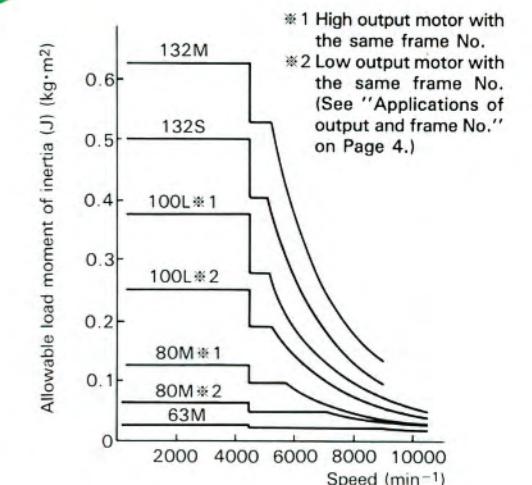

Fig.3 Allowable Load Moment of inertia of PM MOTOR 100 series
The PM MOTOR 100 series has synchronous self-pull-in function at the start of operation. So the load moment of inertia is limited by the starting frequency and pull-in torque. Fig. 3 shows the allowable load moment of inertia (J) at a small starting load torque.
- (1) The relation between load moment of inertia and motor frame No. does not conform to Fig.3.
- (2) Speed in excess of the maximum speed is required.
- (3) Special bearing specifications are required.
- (4) Problem of dangerous speed owing to roll load.
- (5) Installation of hot roll.
- (6) Shaft deflection and vibration need to be reduced.
- (7) For individual drive or approach run inverter drive, zero start operation is required.